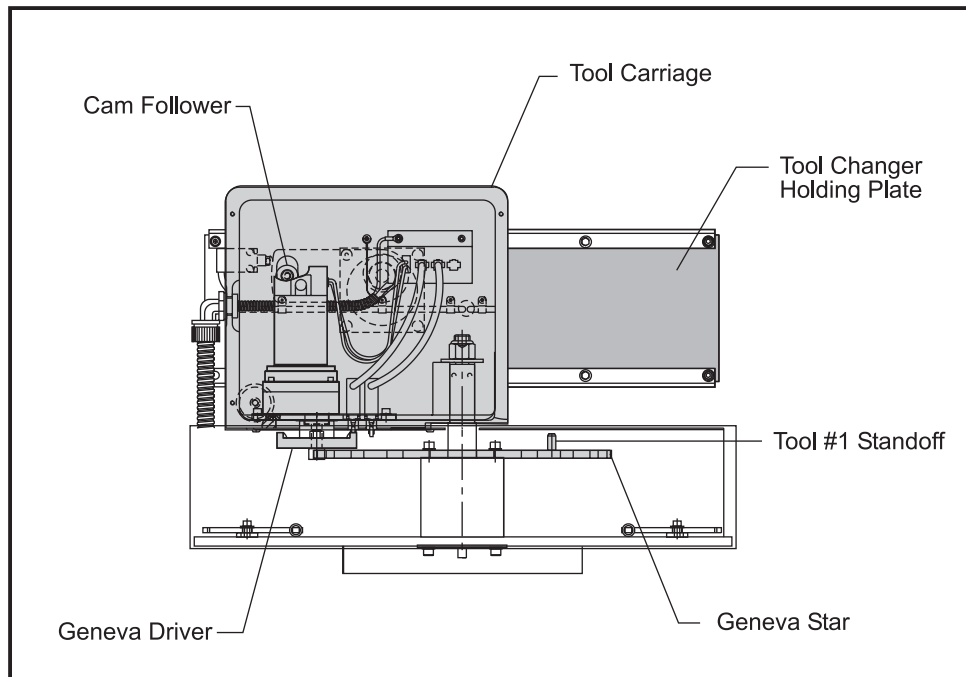

Figure 3.11-2 Automatic Tool Changer - Mechanical Assembly (Side View)
3. Remove the hex bolt that attaches the cam follower to the slip clutch (see Fig. 3.11-2).